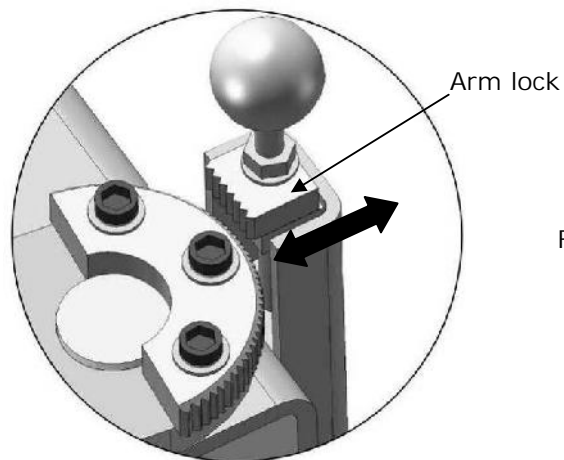

Fig. 26
3. Adjust the arm lock as arrow direction **(See Figure 26 Below)**.